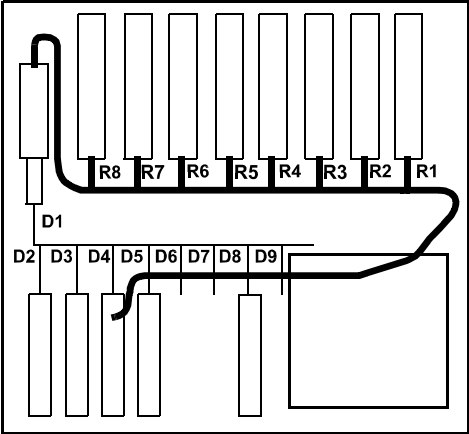

Figure 4-6 Receiver Mainframe Board Location Diagram
1. Check the overall operation of the receiver mainframe by re-booting it and observing the LEDs on the 40 MHz CPC card and Utility CPU board. To re-boot the mainframe, push the power button to halt power, then push it again to restore power. See Figure 4-6 for board location. The LEDs should behave shown in Table 4-3 and Table 4-4 .
- b. The 40 MHz CPC Card was in the wrong slot. Check the correct card placement and insert the 40 MHz CPC Card into the correct slot. The CPC belongs in the fourth slot from the left in the rear of the mainframe. (Refer to slot D5 of Figure 4-6.)